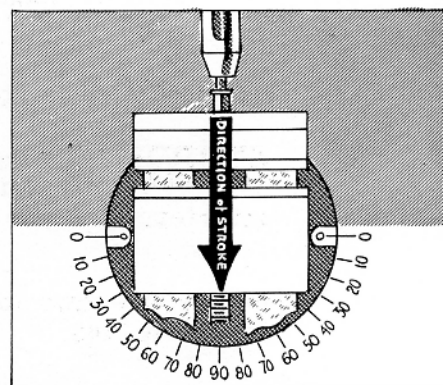

FIG. 142
2. Note that the zero position is the one in which the vise jaws are set  $90^{\circ}$  to the direction of the stroke (Fig. 142).